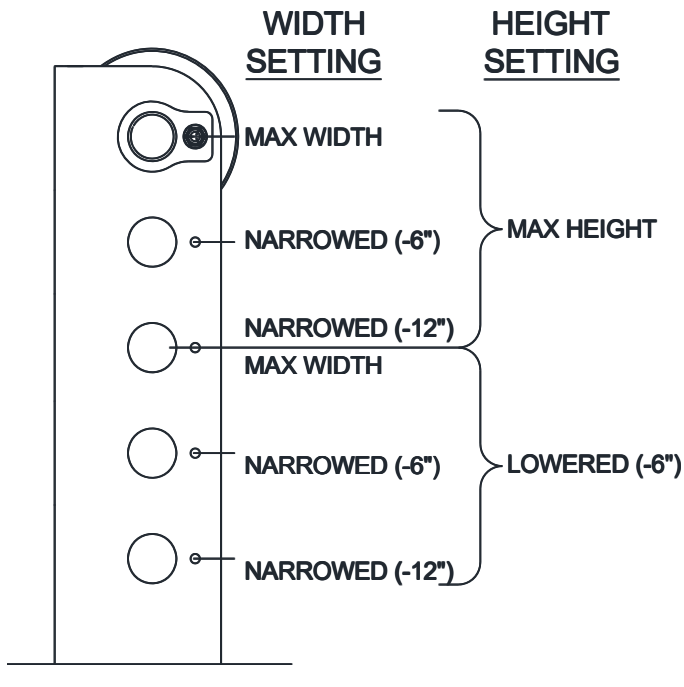

Fig. 3 – Sheave Position in Lower Bracket
- 3) Determine the sheave location on the lower bracket based on the overall height and width of the lift at its chosen configuration. Use the General Specifications table from **page 2** and **Fig. 3** below.